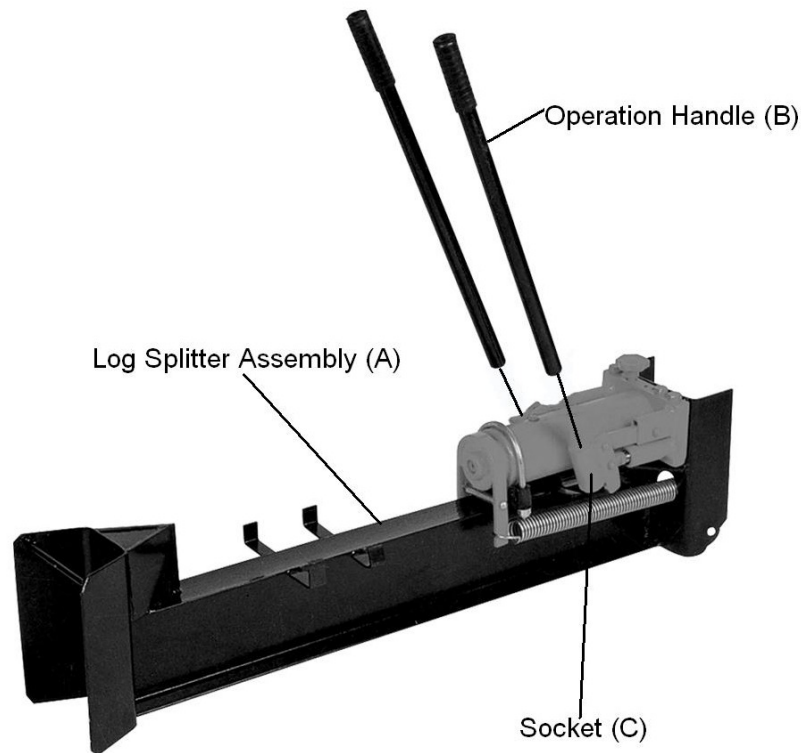

Figure 1
To complete assembly, insert one OPERATION HANDLE (B) into each of the SOCKET (C) on the Ram. See Figure 1.